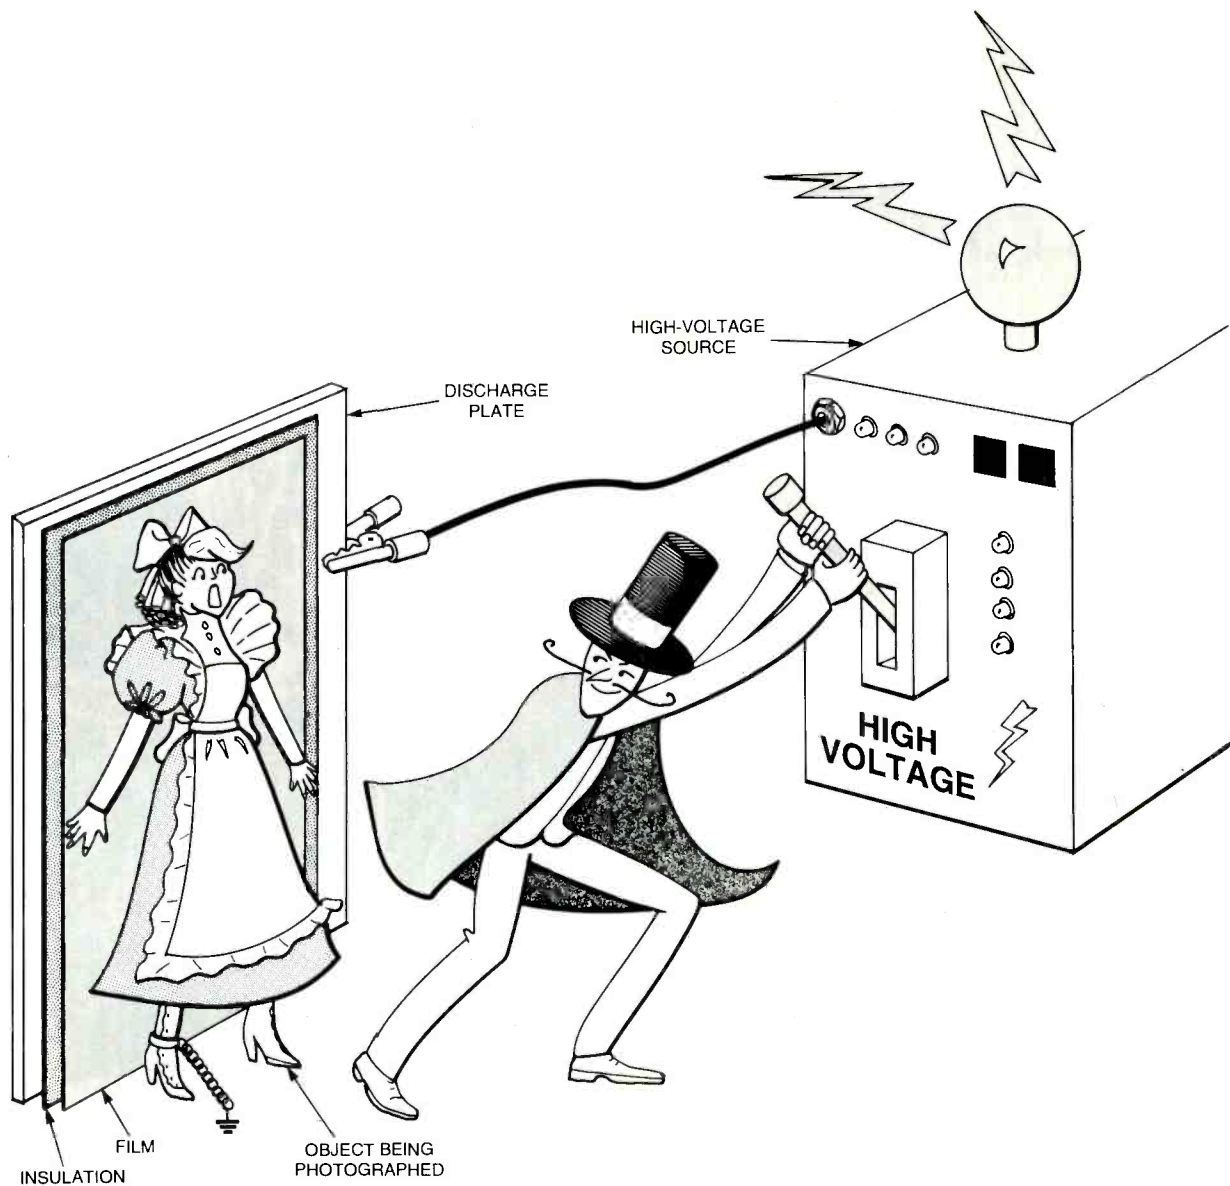

Fig. 1. In Kirlian photography, a high-voltage pulse is passed through a sheet of film to electrify the subject being photographed.
**K**irlian photography is a method of creating contact-print photographs with high voltage. The process is simple: Sheet film is placed on top of a metal plate, and the object to be photographed is placed on top of the film. High voltage is applied to the plate momentarily to make an exposure. The corona discharge between the object and the high-voltage plate is recorded onto the film. When the film is developed, you have a Kirlian photograph of the object. The general arrangement of the system is shown in Fig. 1.